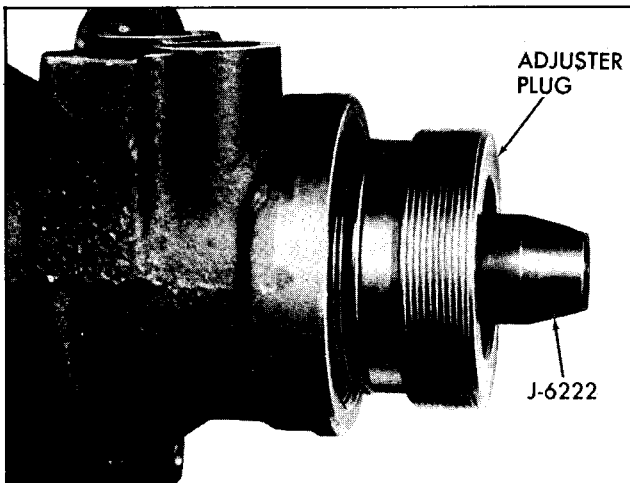

Fig. 9-108 Installing Adjuster Plug
- b. Place seal protector J 6222 over stub shaft, then install the adjuster plug assembly in the housing until it seats against the valve body (Fig. 9-108).